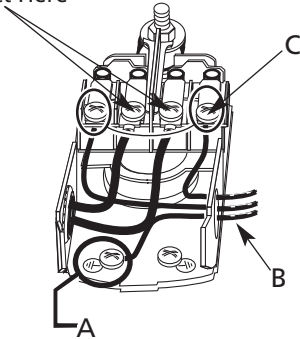

Figure 14 – Voltage Set to 230 Volts, Dial Type
1. Connect the ground wire first as shown in Figure 14. The ground wire must be a solid copper wire at least as large as the power supply wires.
4. Connect the power supply wires to the pressure switch as shown in Figure 14.